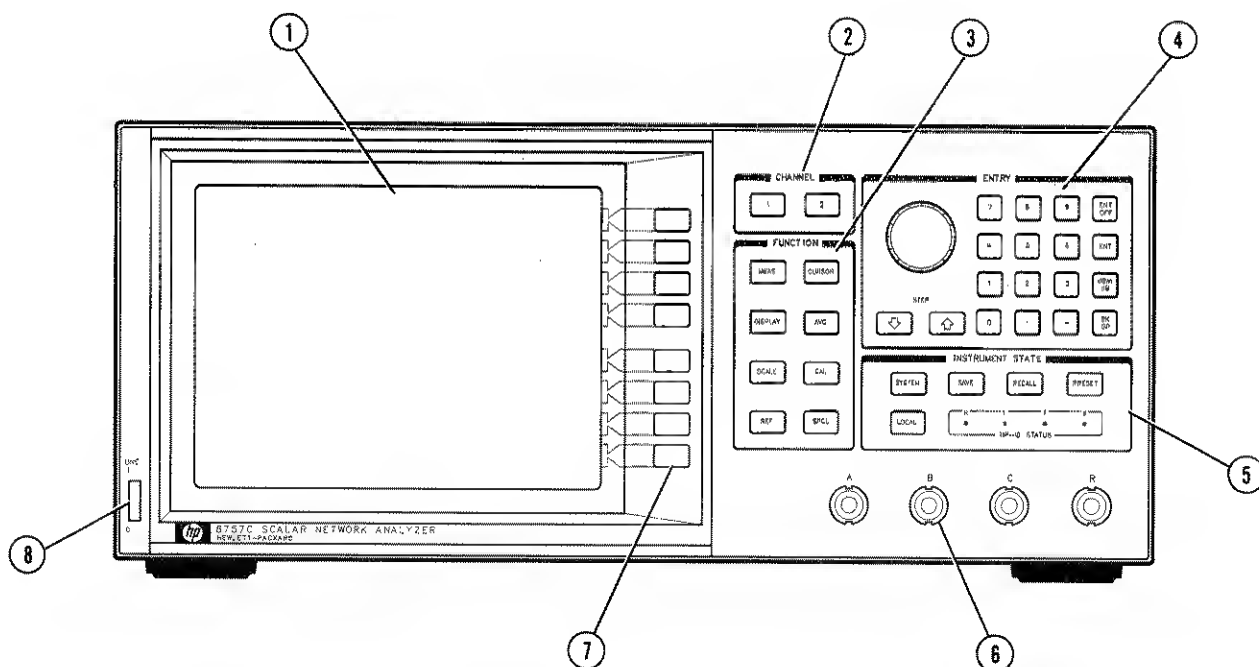

Figure 1. The HP 8757C Option 001 Front Panel
- Figure 1 shows the analyzer's front panel. Call-outs identify the features, which are described in the text below the figure.
The front panel keys are divided into functional groups (CHANNEL, FUNCTION, ENTRY, and INSTRUMENT STATE). These functional groups are labeled on the analyzer front panel. Look on your analyzer's front panel or figure 1. To find a front panel key description in this reference: